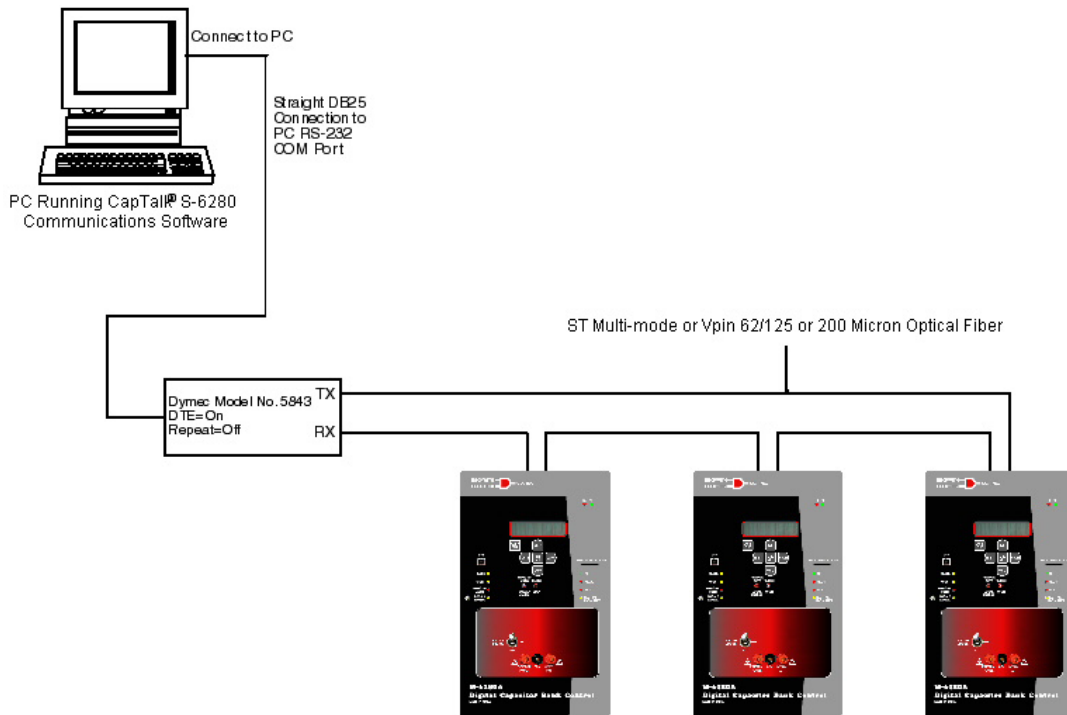

Figure 3 Fiber Optic Connection Loop
**Communications Using Networking:** The addressing capability of the M-6280A allows networking of multiple M-6280A's. Each capacitor bank control can be assigned an address, Feeder Address or Substation Address ranging from 1 to 65519. Selected commands may be broadcast to all controls on the network. Figures 3, 4 and 5 illustrate typical network configurations. Addresses 1-247 can be assigned to MODBUS and 1-65519 for DNP 3.0.